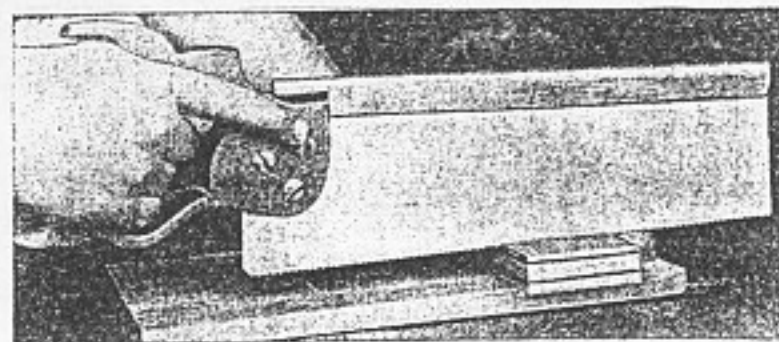

Fig. 250. Sawing shoulder cuts.
17. The piece is clamped in a vise or it is held against a bench hook, and the shoulder cuts are made with a backsaw (Fig. 250).